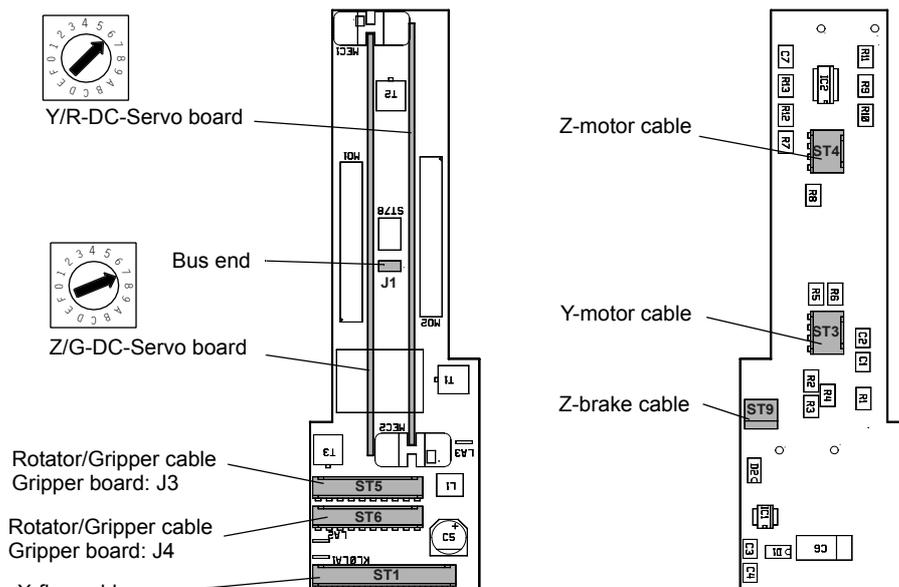

Figure 6-125 RoMa 2 backplane connections (component side: left, solder side: right)
- 3 Connect the cable to the RoMa 2 backplane (14-09). See Figure 6-125, 'RoMa 2 backplane connections (component side: left, solder side: right)'.
- Refer to Figure 6-125 for correct connections to the RoMa 2 backplane.
- Refer to Figure 6-125, 'RoMa 2 backplane connections (component side: left, solder side: right)' for connection of the Z-brake cable to the RoMa 2 backplane.